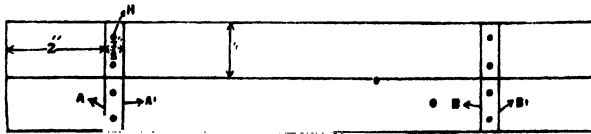

Fig. 87.
Place the two side pieces together and mark on them two lines A, A', at a distance of  $2''$  and  $2\frac{3}{8}''$  respectively from one end. (Fig. 87).
On each piece of wood mark with pencil the positions at which holes should be bored by the bradawl for nails. The positions of these holes are shown, (H), in Fig. 87; they lie mid-way between the lines.